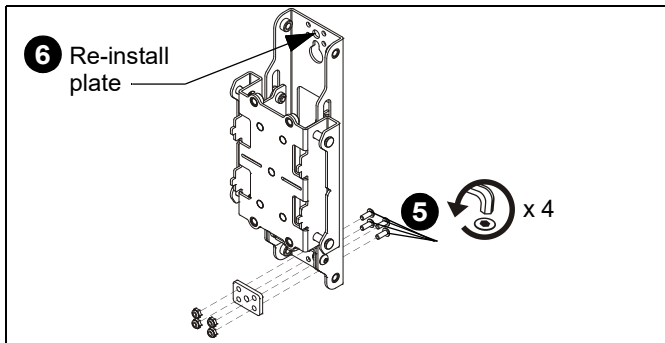

Figure 5
5. Remove four button head screws and nuts, and one small metal plate from lower side within wall upright. (See Figure 5)
6. Reinstall metal plate at top of wall upright using same hardware removed in Step 5. (See Figure 5)